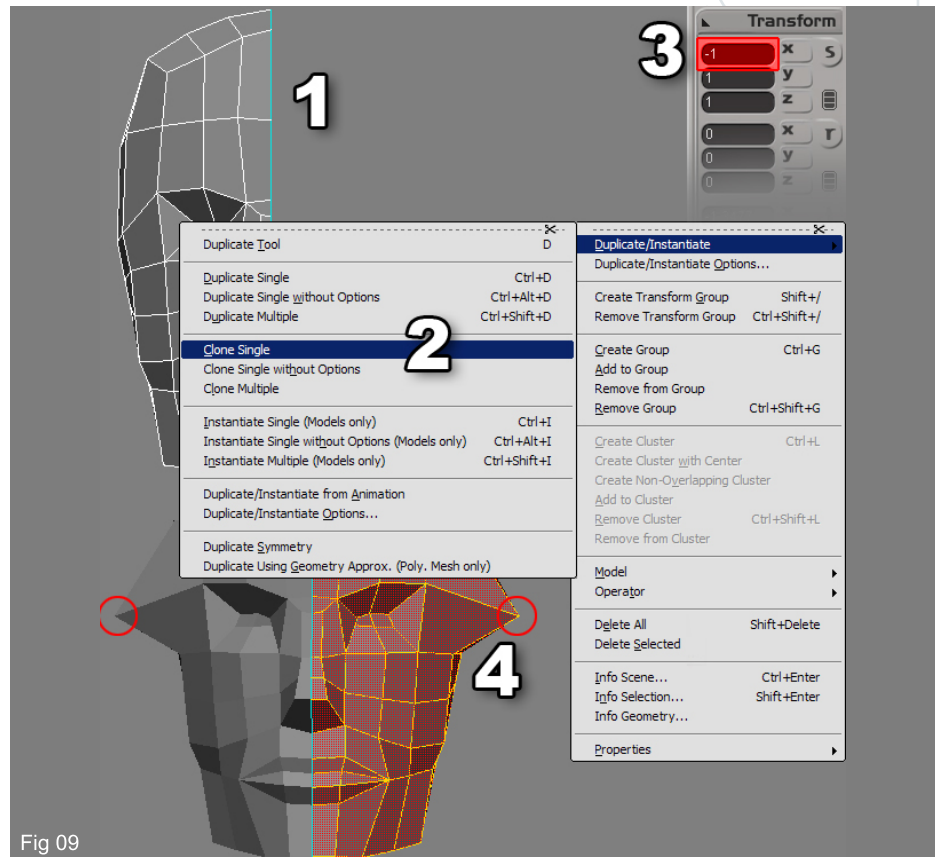

Fig 09
9. It is time to mirror the polygons of one half of the head, so we only need to work on one half. Select a half of the mesh (use the Y shortcut key to rectangle-select the polygons) and delete them (1 on Fig09); then use the Clone tool (Edit -> Duplicate/Instantiate -> Clone Single) (2 on Fig09) to create a perfect clone of the half remaining. Scale this new half by -1 on its X axis (3 on Fig09); this will make the new half a mirrored copy of the original mesh. Finally, try to move around a vertex and see how it affects both the halves (4 on Fig09):